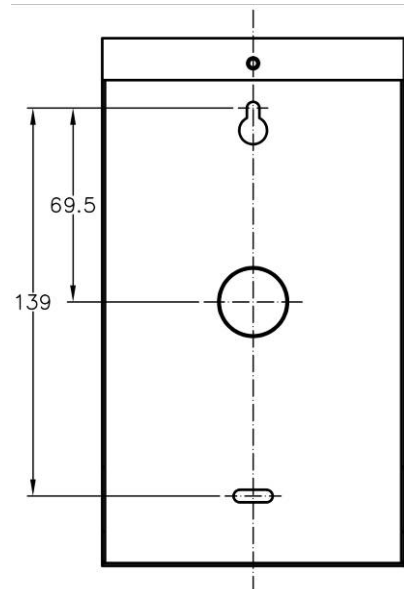

Figure 1 - Mounting Positions
1. Mount the Base of the LCS on the wall using the mounting holes shown in Figure 1.